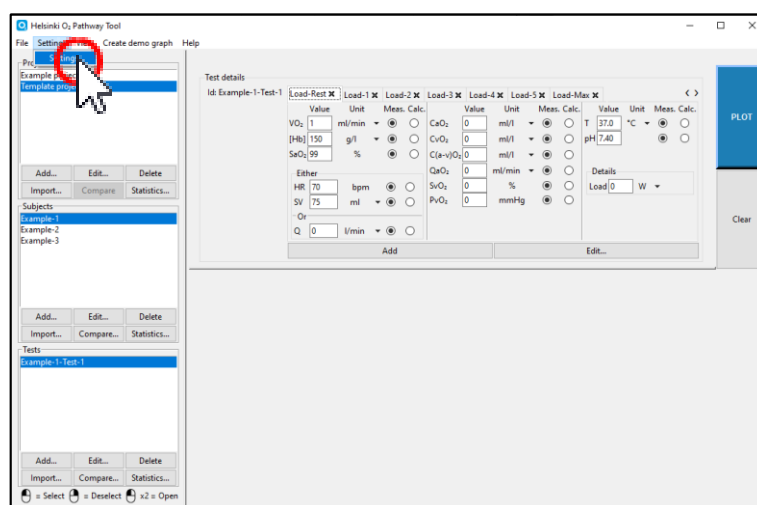

Figure 55
1. Open default settings from the “Settings” menu in the main menu bar (figure 55).